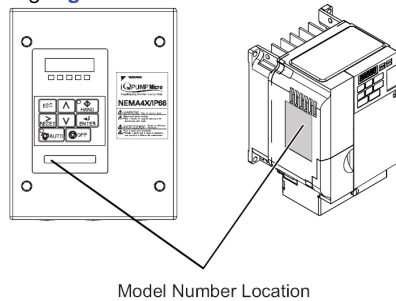

Figure 1.3 Model Number Location
5.3 Locate the drive model number using **Figure 1.3**.